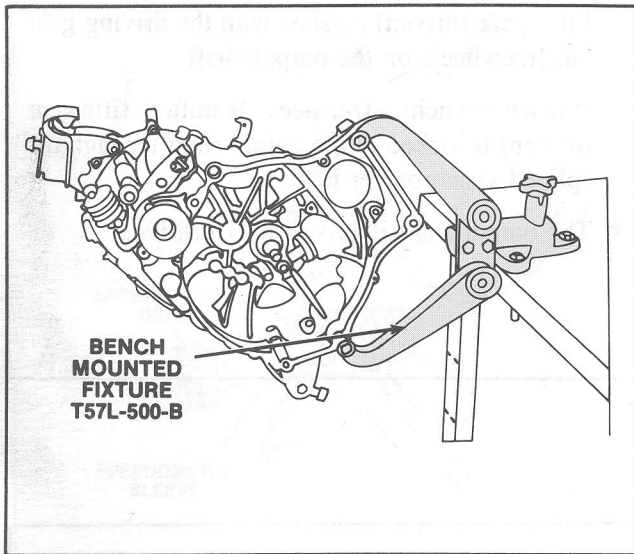

Figure 31 Bench Mounted Holding Fixture
1. Mount the transaxle in Bench Mounted Holding Fixture T57L-500-B. (Figure 31).